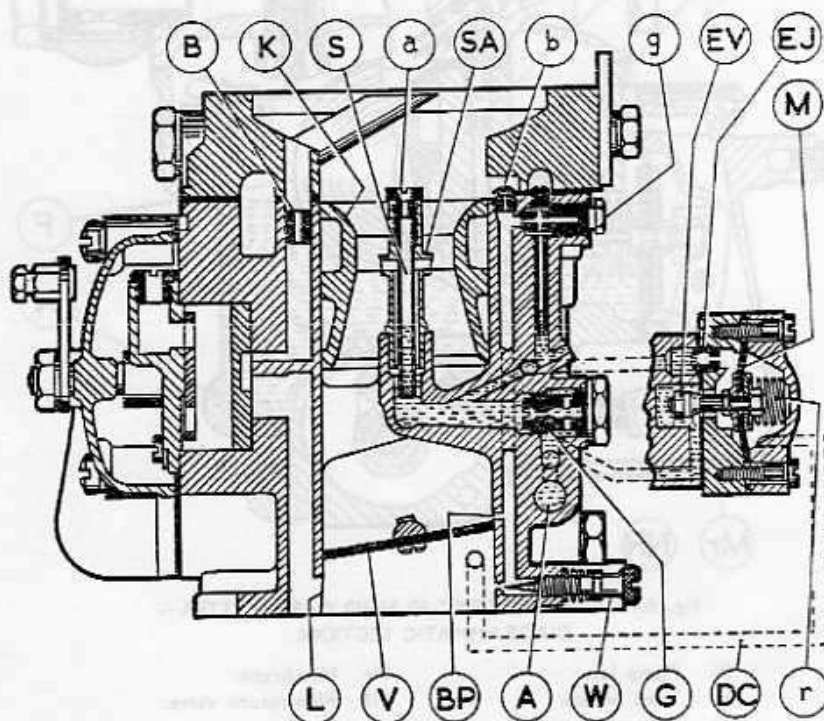

Fig. B.18.—THE "SOLEX" 40 NNIP CARBURETTER—
Fuel is drawn from the channel **A** (Fig. B.18) through the main jet **G** up to the pilot jet **g** and then emulsified. The size of the pilot orifice is governed by the screw **W**, and the mixture is corrected by the idling air jet **B**.
- (ii) Adjust the mixture control screw (W, Fig. B.18) to give the most even running, turning the screw IN weakening the mixture, and turning the screw OUT enriching the mixture. The approximate settings are one full turn from the closed position. The screws should only be operated with the fingers, otherwise the seating may be damaged.